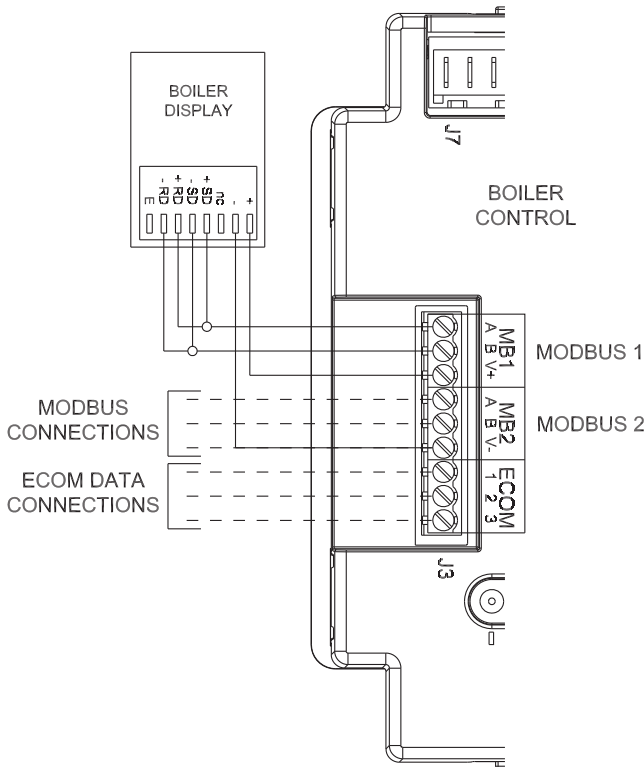

Figure 11.6: J3 Field Wiring
3. Data Connections – Modbus and EnviraCOM connections are located in the green control connector shared with the display connections (Figure 11.6). These connections have the following uses: